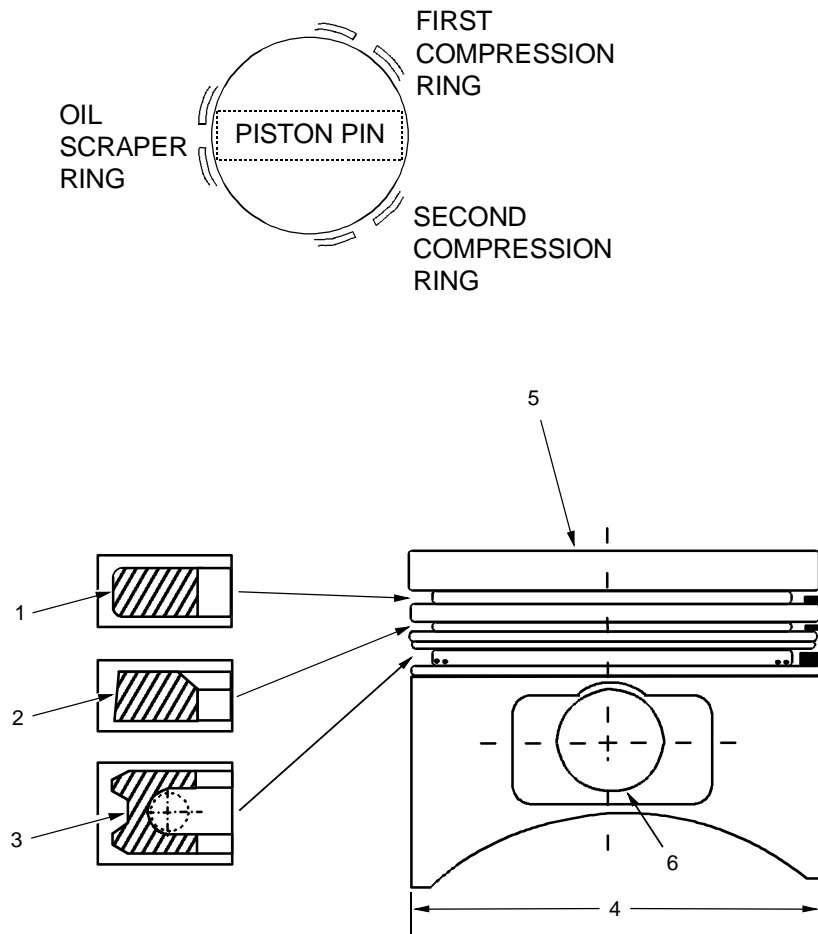

Figure 5. Piston Ring Installation
**INSTALL PISTON RINGS** (Refer to Figure 5)**INITIAL SET-UP:****Tools:**